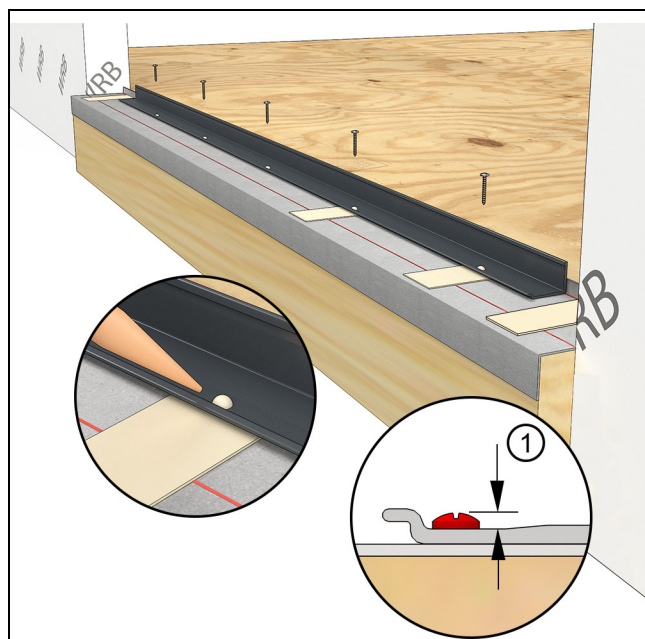

Figure 10
4. Depending on your construction, use the appropriate fastener to fasten the sill support to the sill. Follow manufacturers instructions for proper application. See Figure 10.